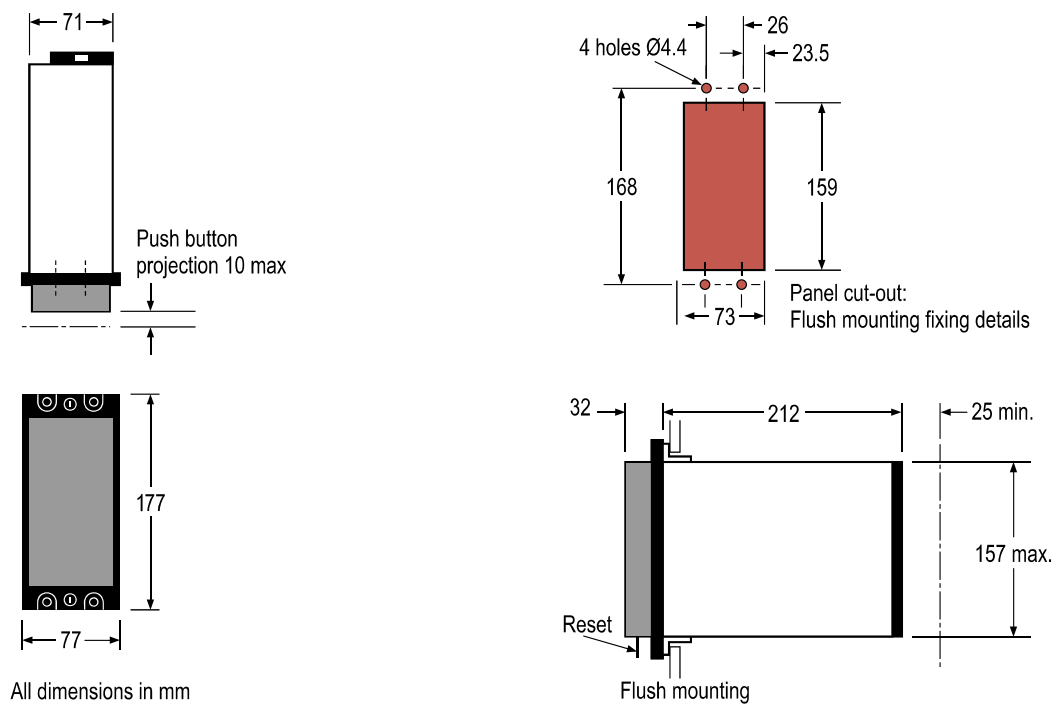

Figure 6: Case outline 15TE (size 3)
- Type MCAG 14 (single element) and MCAG 34 (three element) relays are supplied in 15TE (size 3) and 30TE (size 6) cases respectively. These are shown in Figures 6 and 7.